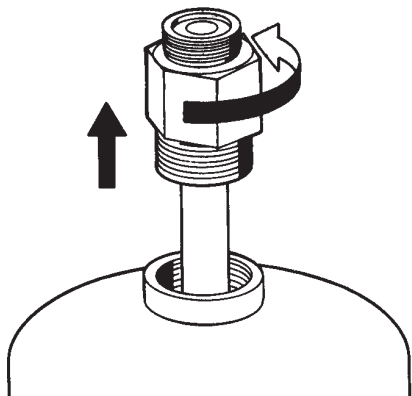

FIGURE 2
- a. Remove tank adaptor/tube assembly from tank fill opening. Visually inspect tank adaptor to determine bursting disc is in place and that silver side is away from tank. See Figure 2.